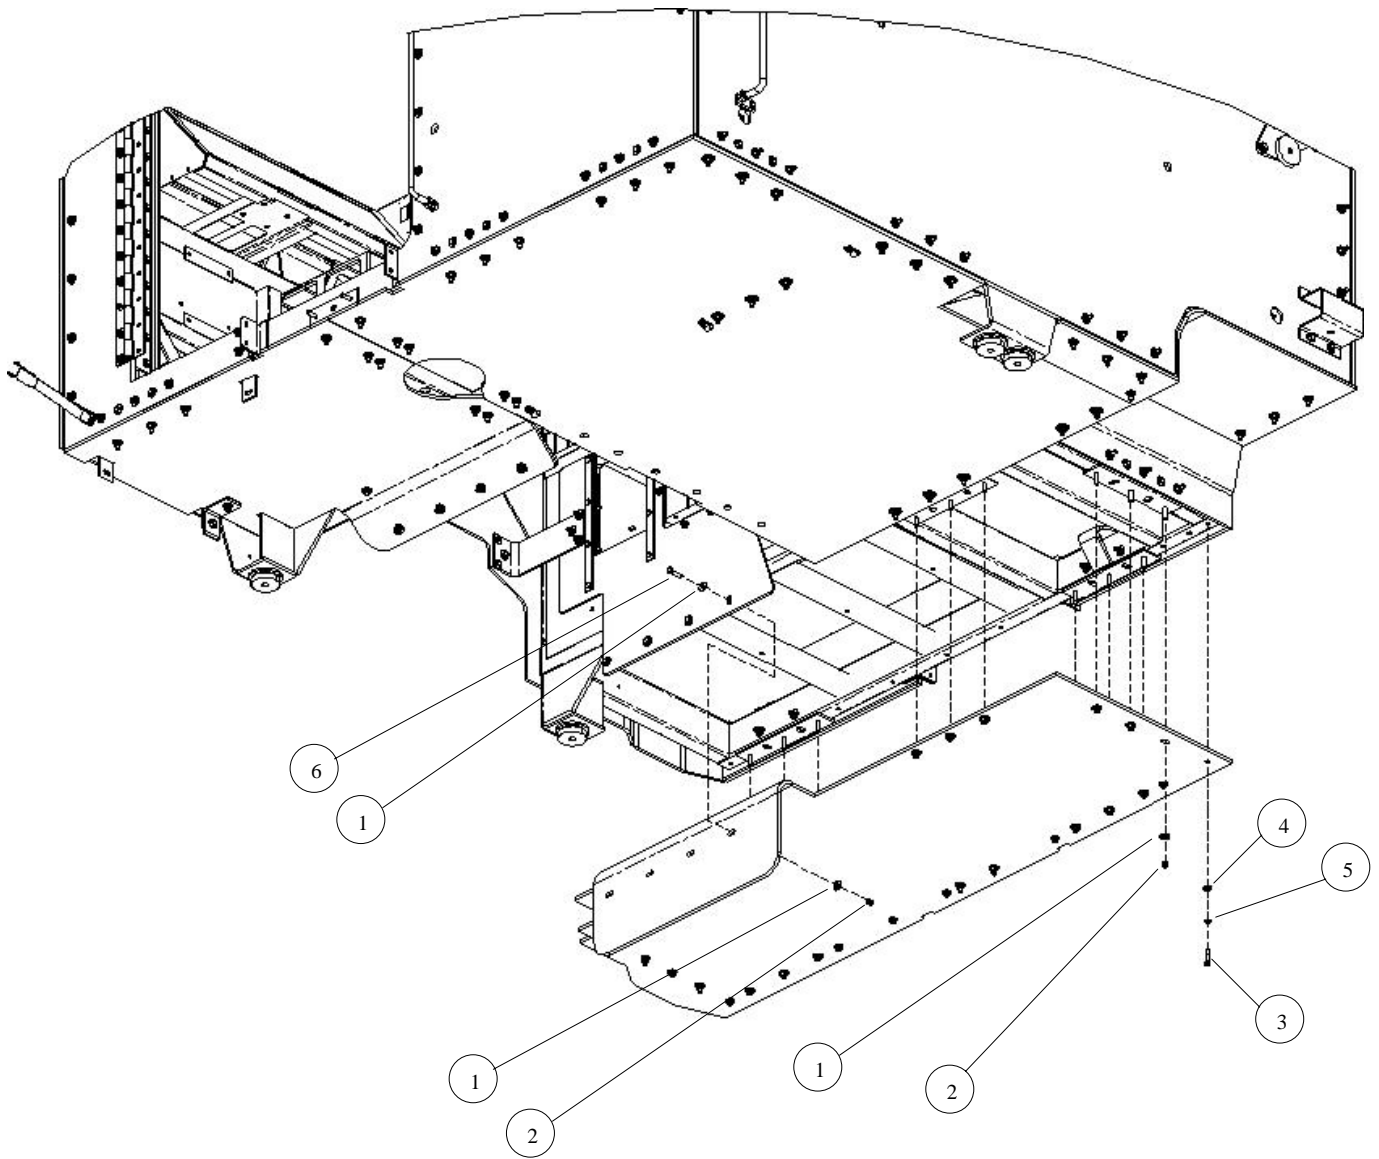

Figure 3-64. Right Mine Blast Panel Assembly Installation.
2. Install right mine blast panel assembly as follows (see Figure 3-64):